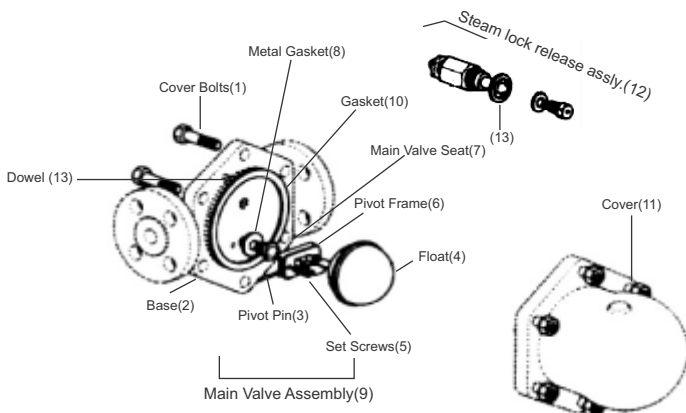

Figure 8: Maintaining the main valve assembly
7.4 Maintaining/ Replacing the main valve assembly:(Refer to Figure 8)
9. Available Spares : (Refer to Figure 8)